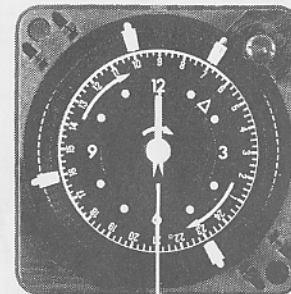

Fig 2
- Position tappets in outer dial as shown. **Red** tappets switch **On**, **blue** tappets switch **Off**. For example, if you want to switch on between 7 and 10 am and then between 4pm (16.00 on 24 hour dial) and 11pm (23 on dial), tappets are positioned as shown in fig 2. In the event of power cuts etc, remember to reset the clock by turning clock fingers **clockwise** only using clock adjuster knob.